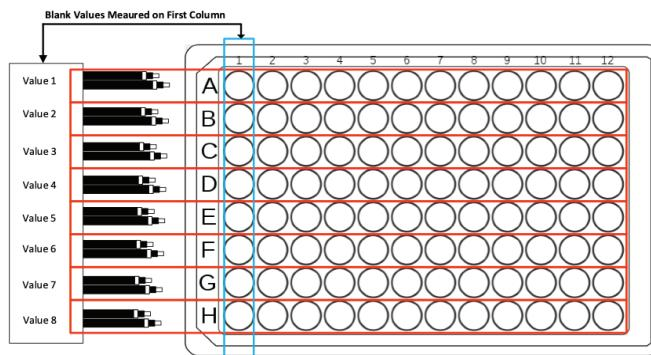

Fig. 62—The values of the blanks are measured to determine the baseline resistance without any cells. This figure shows an array of 96 wells.
4. Select your blank option. This option measures the resistance of the first column (Wells A1, B1, C1... H1), and this value is used as a baseline for each row. Each value on the *Blank Value* table measures the resistance of the specific electrode pair used to measure each column on a well containing only buffer or media. (See the column highlighted in blue in Fig. 62.) These values (Value 1 ... Value 8) are subtracted from the measurements on the corresponding row (Red Rectangles) to obtain the change from the baseline well (the well with no cell growth) to omit any offset or background values.